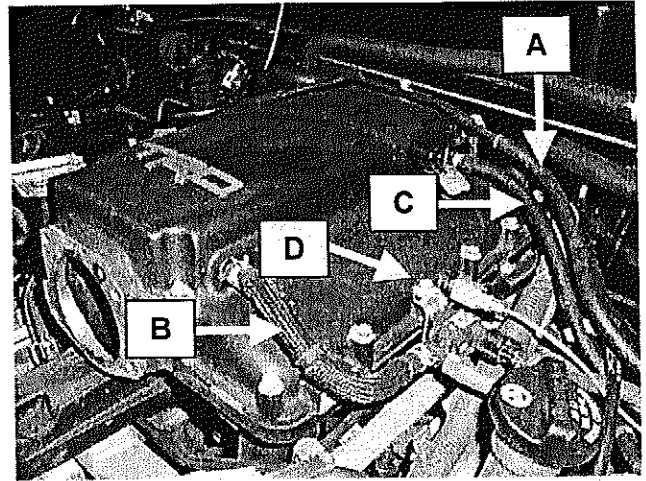

Figure 8
- EVAP VSV hoses (Figure 8, Arrows A & B).
- Brake boost vacuum assist hose (Figure 8, Arrow C).